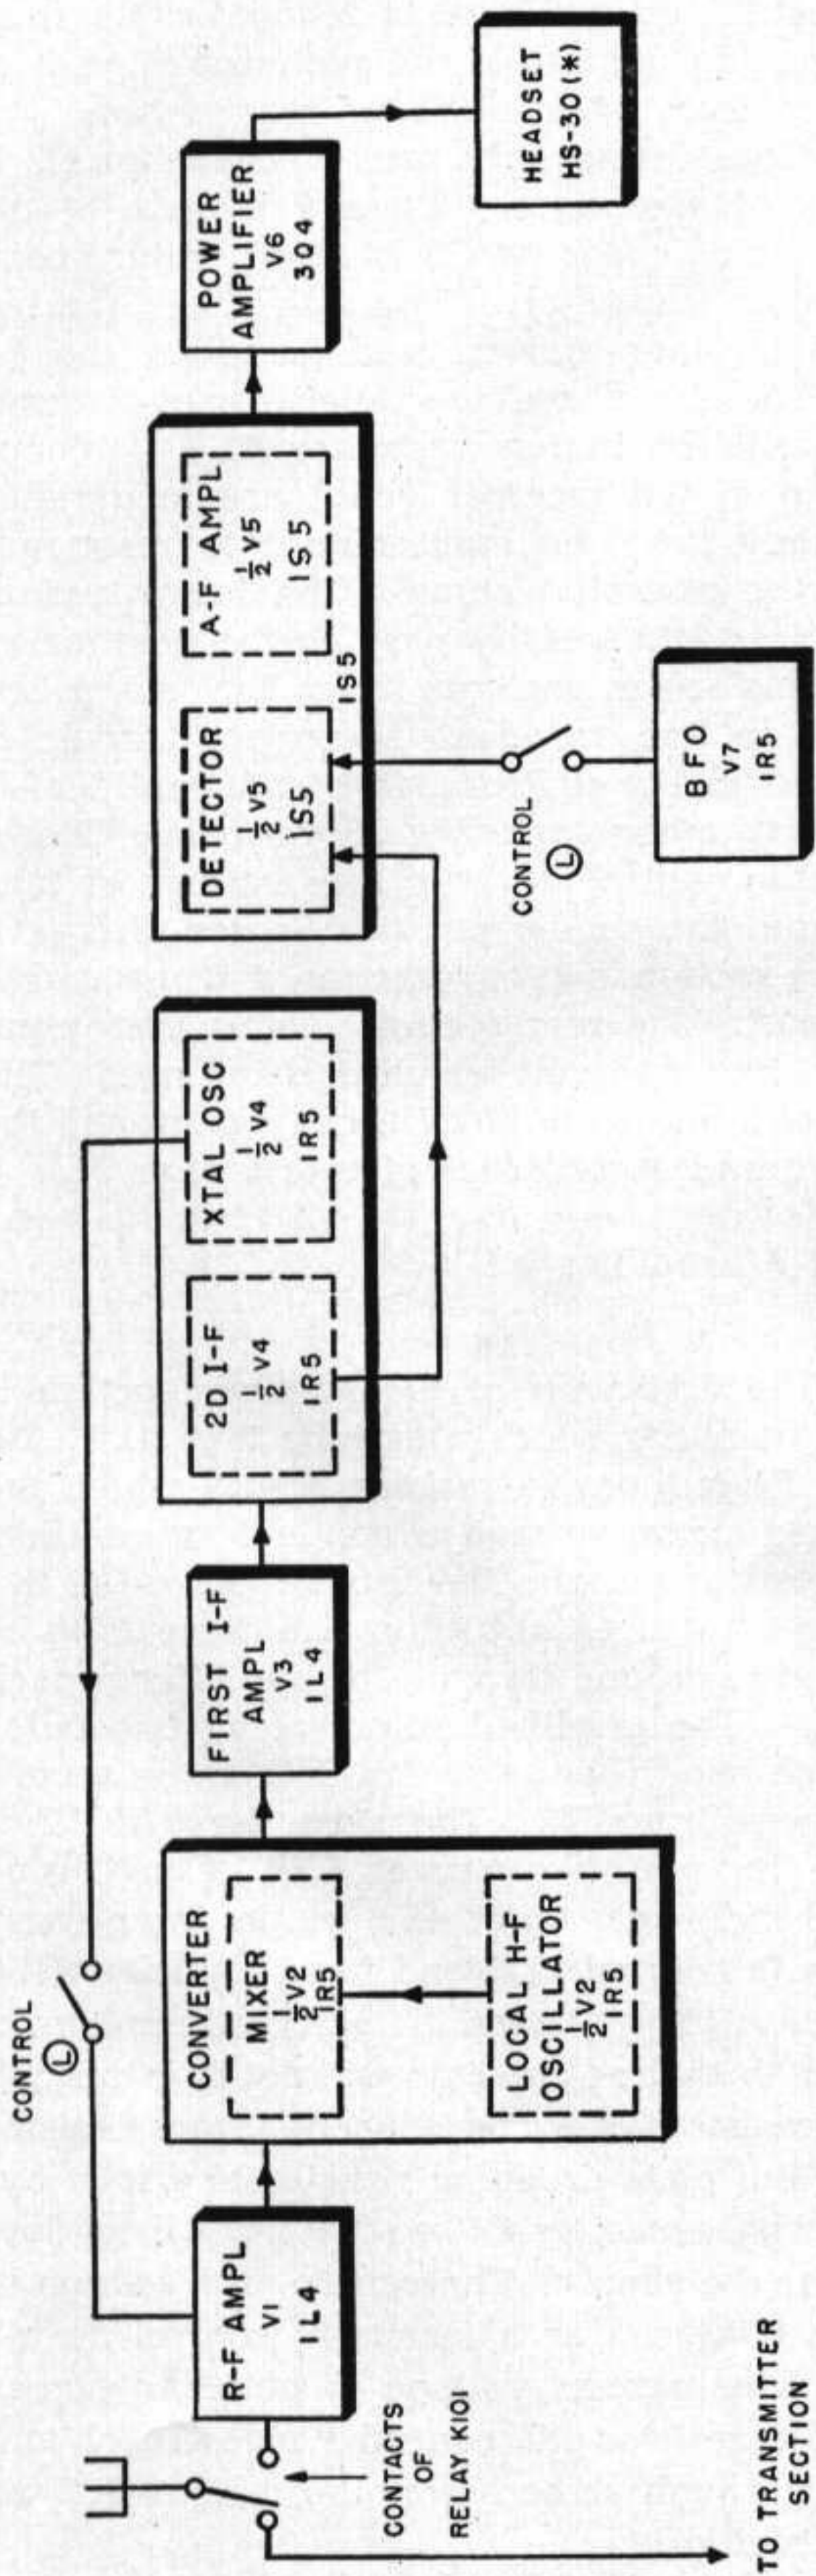

Figure 55. Block diagram of receiver-transmitter section of receiver-transmitter RT-77/GRC-9-GY.
(fig. 55)
a. GENERAL. The receiver section of Receiver-Transmitter RT-77/GRC-9-GY consists of a 7-tube superheterodyne receiver designed for the reception of c-w and a-m signals over a frequency range of from 2.0 to 12.0 mc. Three bands are used to cover this range; band 1 covers from 6.6 to 12.0 mc, band 2 covers from 3.6 to 6.6 mc, and band 3 covers from 2.0 to 3.6 mc. The block diagram (fig. 55) shows the signal path through the receiver. A complete schematic diagram is shown in figure 125. The same antenna is used for transmitting and receiving; switching between the two sections is accomplished by a relay in the transmitter, which is operated by the key or press-to-talk switch on the microphone.